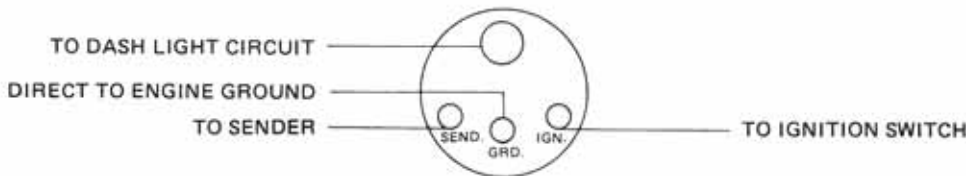

FIGURE 11
2. Use 18-gauge wire to connect ground sender and ignition wires as shown in FIG. 11 above. **CAUTION: DISCONNECT BATTERY GROUND CABLE TO AVOID ACCIDENTAL GROUNDING OF ELECTRICAL SYSTEM WHILE MAKING ELECTRICAL CONNECTIONS TO THE GAUGE.**